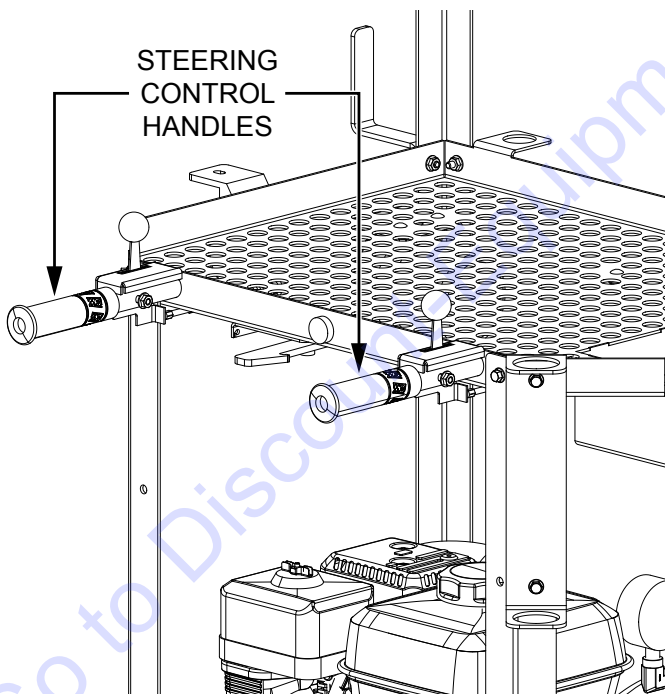

Figure 27. Steering Control Handles
1. Use the gripped control handles at the rear of the spray cart to steer the unit (Figure 27).